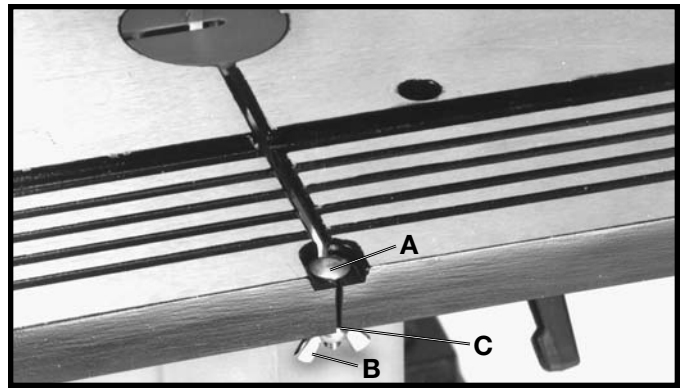

Fig. 11
Insert M6 x 30mm button head bolt (A) Fig. 11, down through hole in table, as shown, and place a M6 flat washer (C) onto bolt from underneath table and fasten in place with an M6 wing nut (B).
5. Remove table alignment screw (A) Fig. 11 and table insert.
11. Replace table insert and alignment screw (A) Fig. 11, that was removed in **STEP 5**.